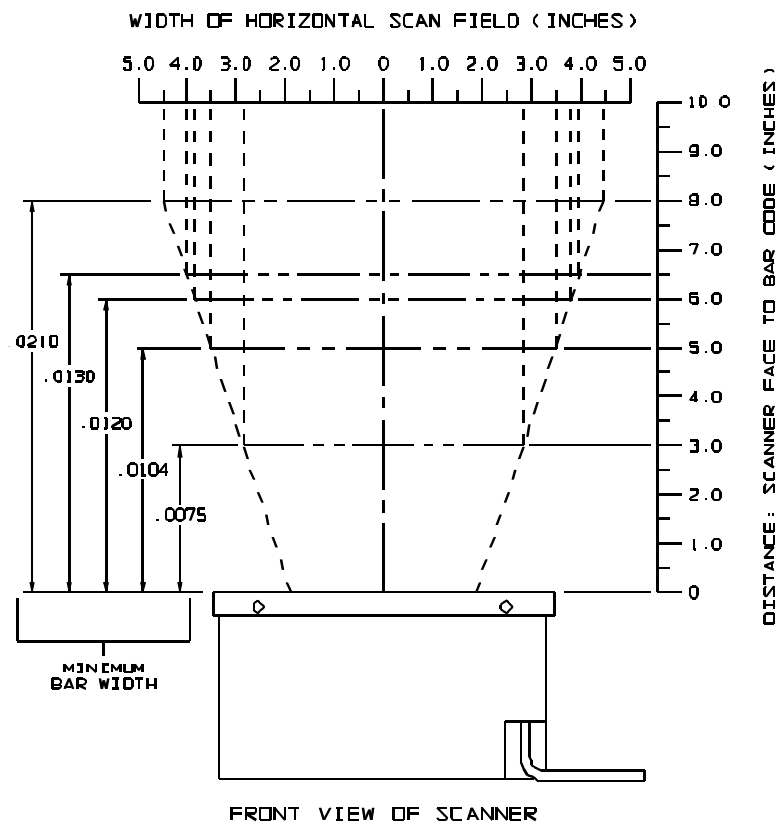

Figure 7
**Depth of Field and Symbol Specification (See Figure 7)**